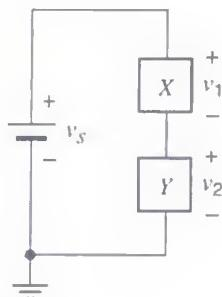

Fig. 1
1. Construct the series circuit shown in Fig. 1. For this experiment *X* and *Y* will be resistive elements provided to you (e.g., two different-valued linear resistors with values of several K $\Omega$ ; you can learn to read resistor values as explained in Appendix A). Set the